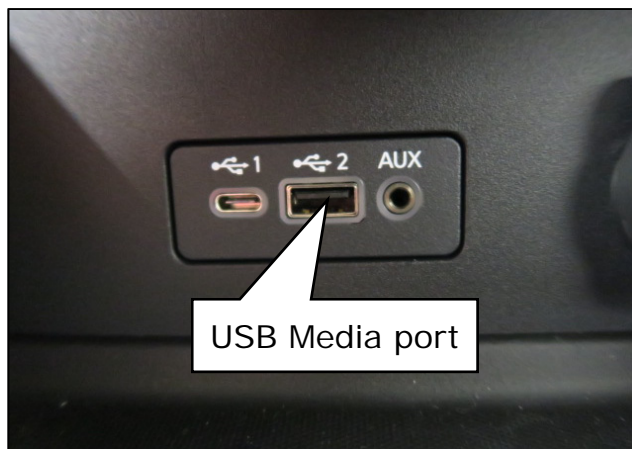

Figure 13
21. Insert the USB drive with the infotainment update-software into the vehicle's USB media port (Figure 13).